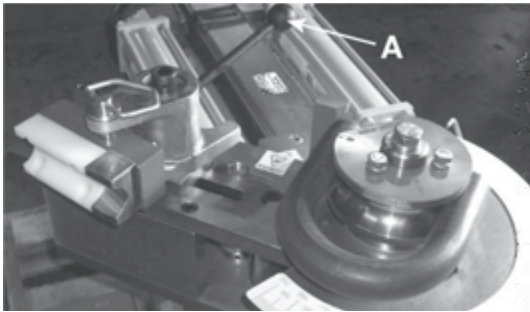

Figure 8.11 - Quick Release Counter Die Lever
3. Activate the quick release counter die lever (A, Figure 8.11) and completely remove the material.